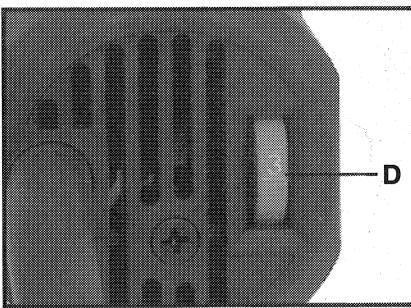

Fig. 3
SPEED RANGE – Your Variable Speed Saw is equipped with a "SPEED CHANGE KNOB" (D) Fig. 3. The knob is numbered "1" through "6" with "1" producing the slowest speed (approximately 400 SPM) and "6" producing the fastest speed (approximately 2600 SPM). The knob (and tool speed) is infinitely adjustable between "1" and "6". The knob (speed) may be adjusted with or without the motor running.